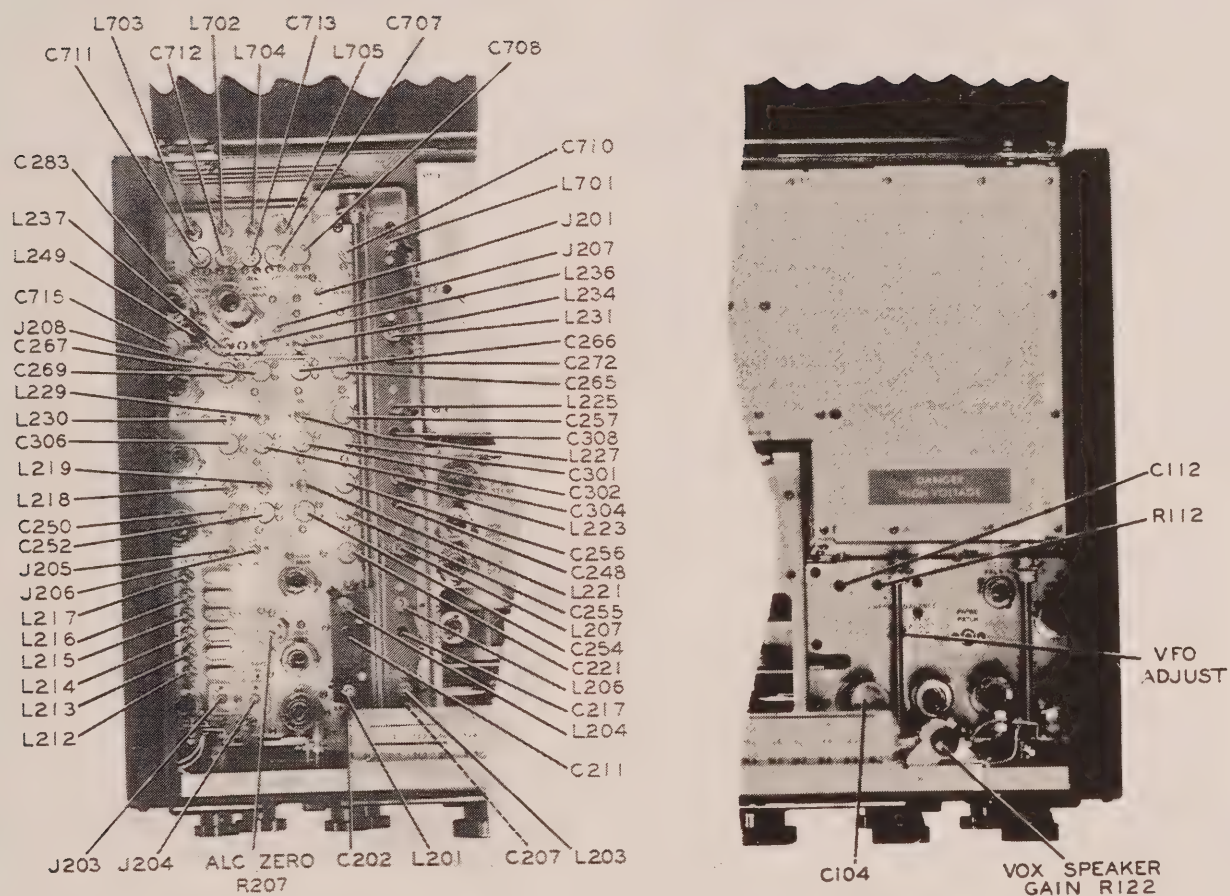

Figure 5-1. Exciter Test Jacks and Points of Tuned Circuit Adjustments
(9) NEUTRALIZATION CHECK. The following procedure will show whether or not the KWS-1 r-f circuits are properly neutralized.
- (10) BALANCED MODULATOR CHECK. The following procedure will determine if the ring modulator is in balance.
- (c) The carrier will be heard if the modulator is not in balance. Adjust R112, and C112 (see figure 5-1) for minimum sound of the carrier.
(11) COLLINS MODEL 35C-2 LOW-PASS FILTER. It is not likely the Collins KWS-1 Transmitter will require precautionary adjustments because of TVI. However, if this problem does arise, for some reason unique to a particular installation area, the 35C-2 Low-Pass Filter may be installed in the KWS-1 antenna lead. In rare cases of extreme difficulty, a high-pass filter may be installed in the TV receiver antenna lead in.
(Refer to figure 5-1)
b. Connect the antenna of a communications receiver to J203. (See figure 5-1.)